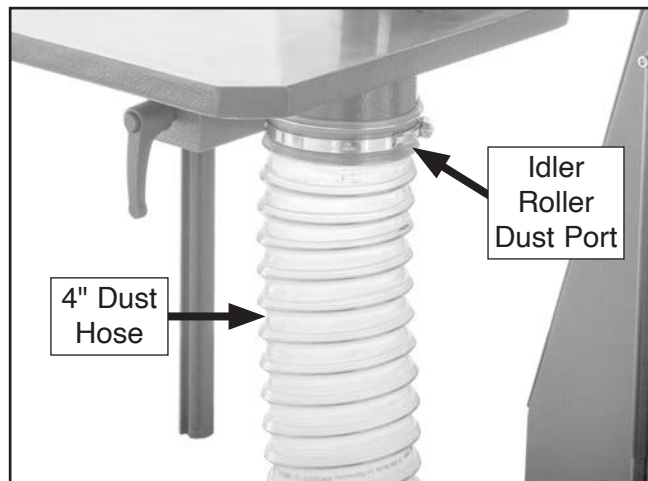

Figure 25. Dust hose installed on idler roller dust port.
12. Install loose ends of remaining 4" dust hose on idler roller dust port shown in **Figure 25**, then secure in place with pre-installed hose clamp.